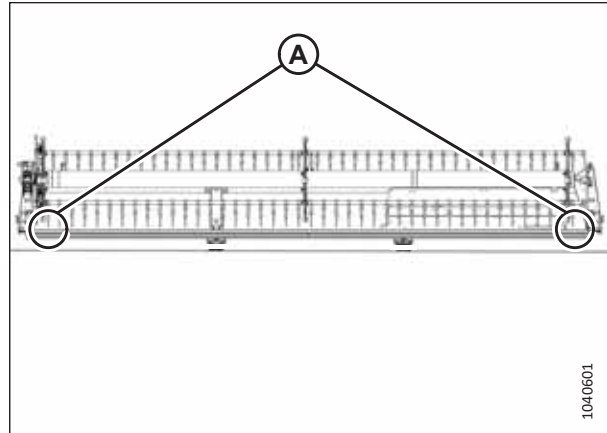

Figure 6.28: Single-Reel Header Measurement Locations
- Figure 6.28, page 226 – single-reel headers